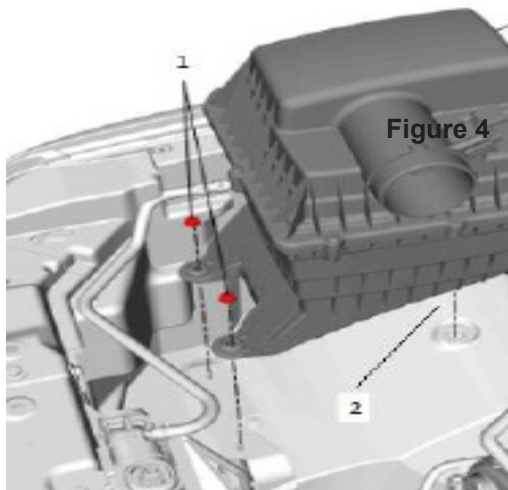

Figure 4
- Install the new box assembly into the truck. Seat box into grommet in fenderwell (2 in Figure 4) and push firmly down to seat. Re-install nuts (1 in Figure 4) into legs of box and torque to 12 Nm (9 ft lb).